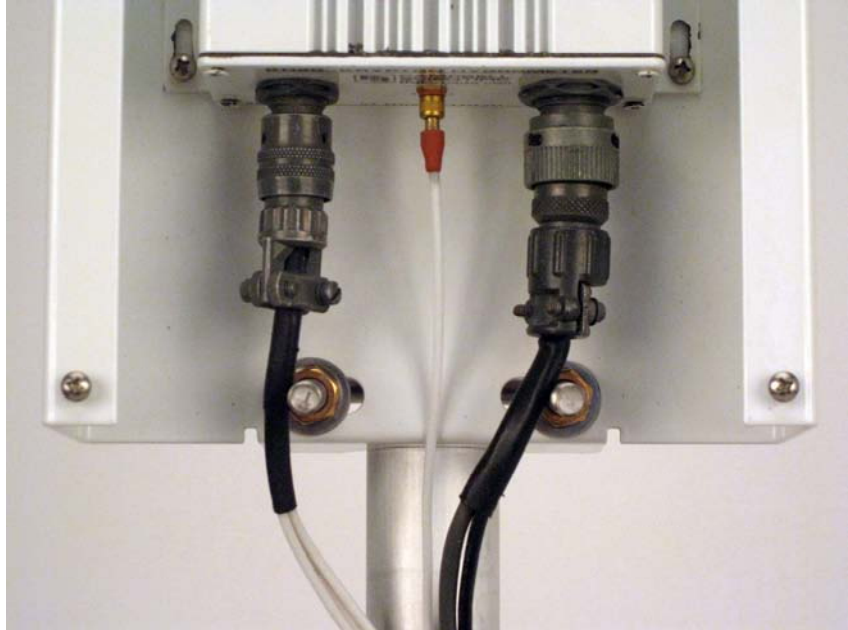

FIGURE 3. Attaching cables to the electronics box.
4. Connect the three cables to the bottom of the electronics box around the U-bolt on the rain shield (see Figure 3). If there is not enough room for the connectors around the U-bolt, make sure the electronics box is mounted at a highest possible position (see step 2).